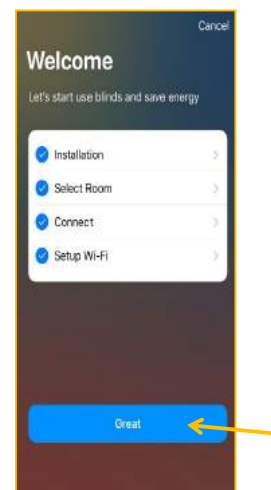

Figure 15
10.4.2. Proceed with the connection procedure (Fig. 15):